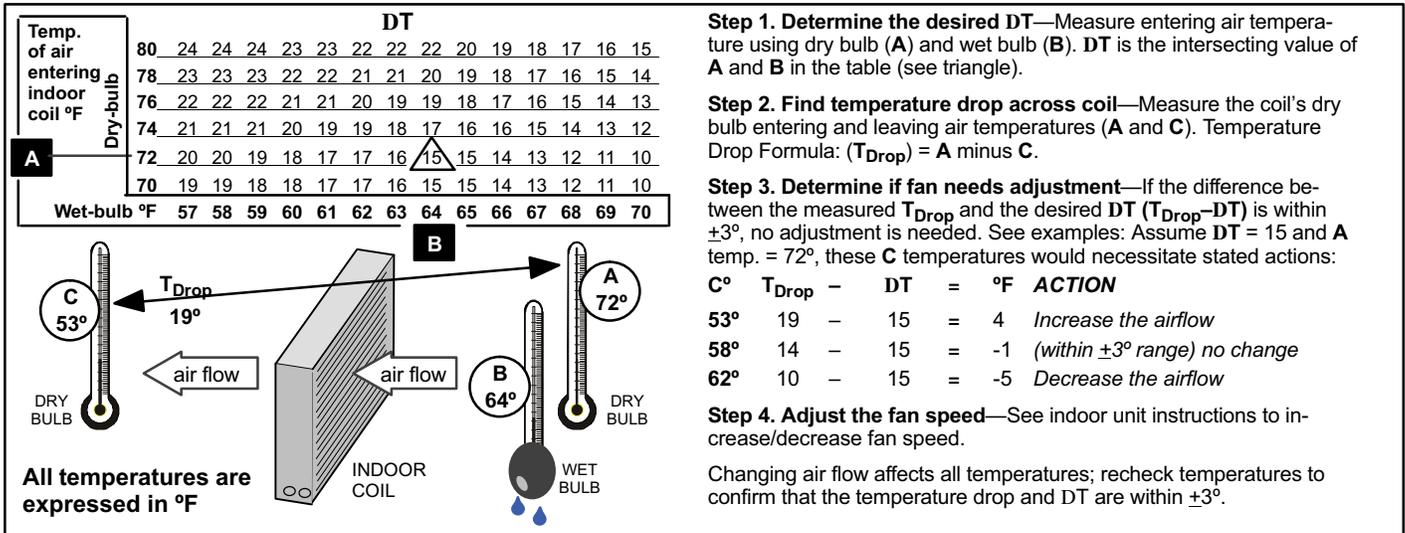

Figure 30. Checking Indoor Airflow over Evaporator Coil using Delta-T Chart
Check airflow using the Delta-T (DT) process using the illustration in figure 30.
1. Check the airflow as illustrated in figure 30 to be sure the indoor airflow is as required. (Make any air flow adjustments before continuing with the following procedure.)